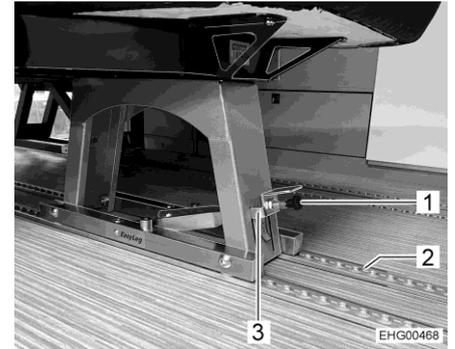

Fig. 7 Individual seat (locking device open)
- When the individual seat / double bench has been inserted in the rail (Fig. 7,2) or shifted to the desired position: pull the black handle (Fig. 7,1) forwards.
- **Push the metal clip (Fig. 7,3) downwards.**